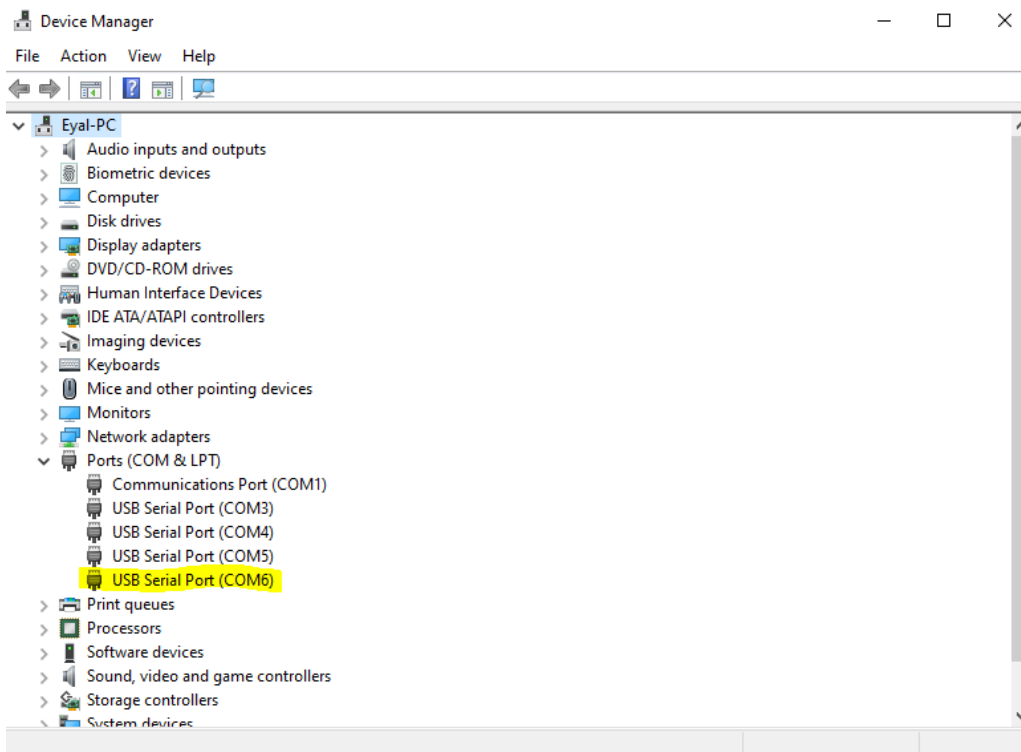

Figure 6: Locating the port name of the manager for the SensorDataReceiver application
9. Connect the manager to a USB port on your computer and put in the port name for the manager in the SensorDataReceiver application. In this case it is "COM6". Your number may differ but you must always choose the fourth COM port. For example if COMs 7, 8, 9, 10 appear under ports in the device manager then you choose the fourth COM port (COM10) to put into the SensorDataReceiver application (Figures 6 and 7).